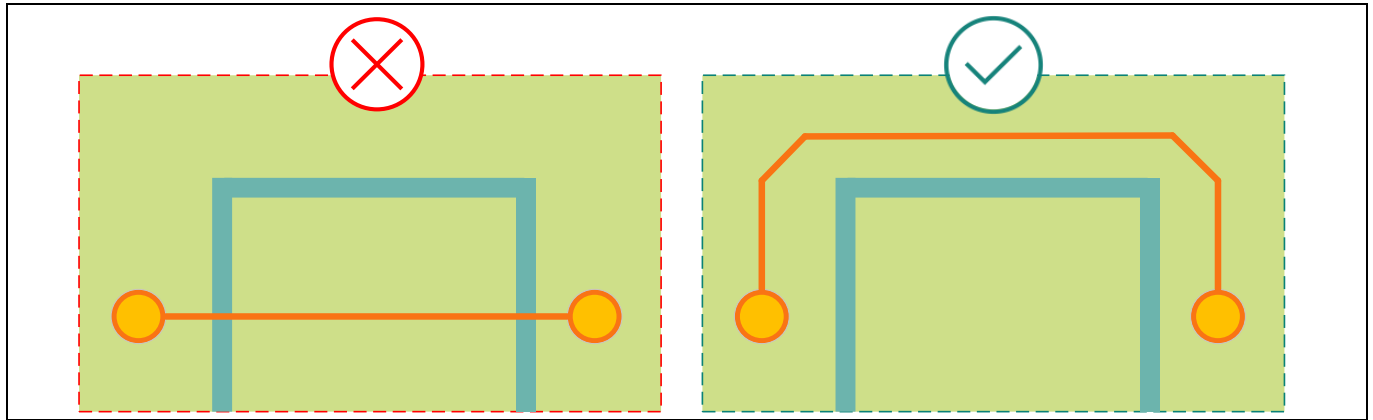

Figure 13 Avoid routing signals over split planes in high-speed PCBs
- Route the high-speed signals over a solid GND reference plane, as in Figure 13